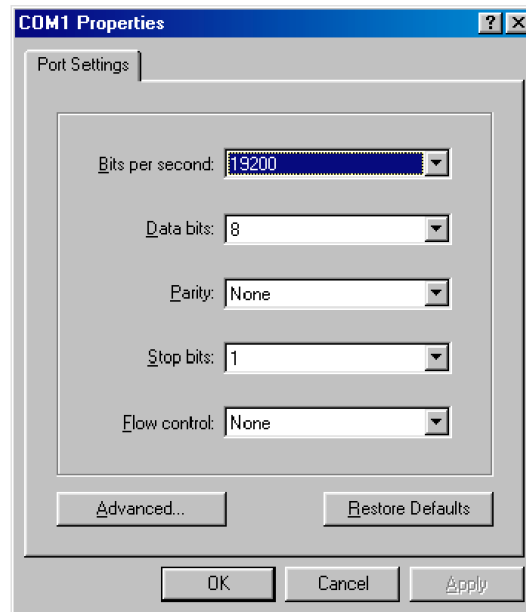

Figure 14. COM properties
- Configure the COM port settings as shown in figure 14.